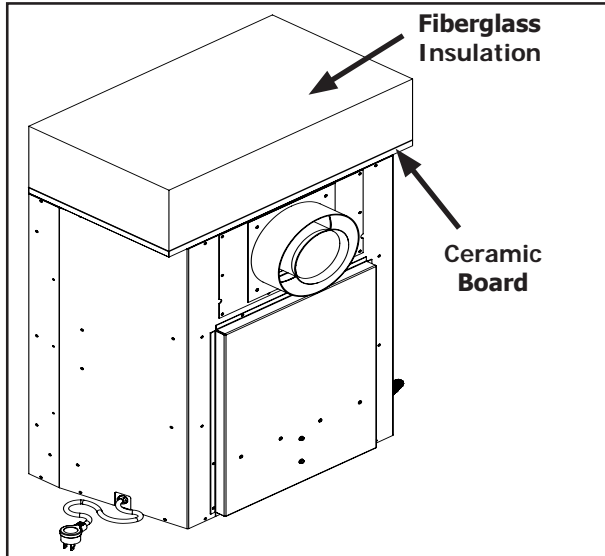

Figure 25. Unit Insulation - Rear Vent
**Rear Vent:** When using the rear vent configuration both the ceramic board and fiberglass insulation are required. Place the ceramic board on top of the unit first and then place the insulation on top of the ceramic board as shown in Figure 25.